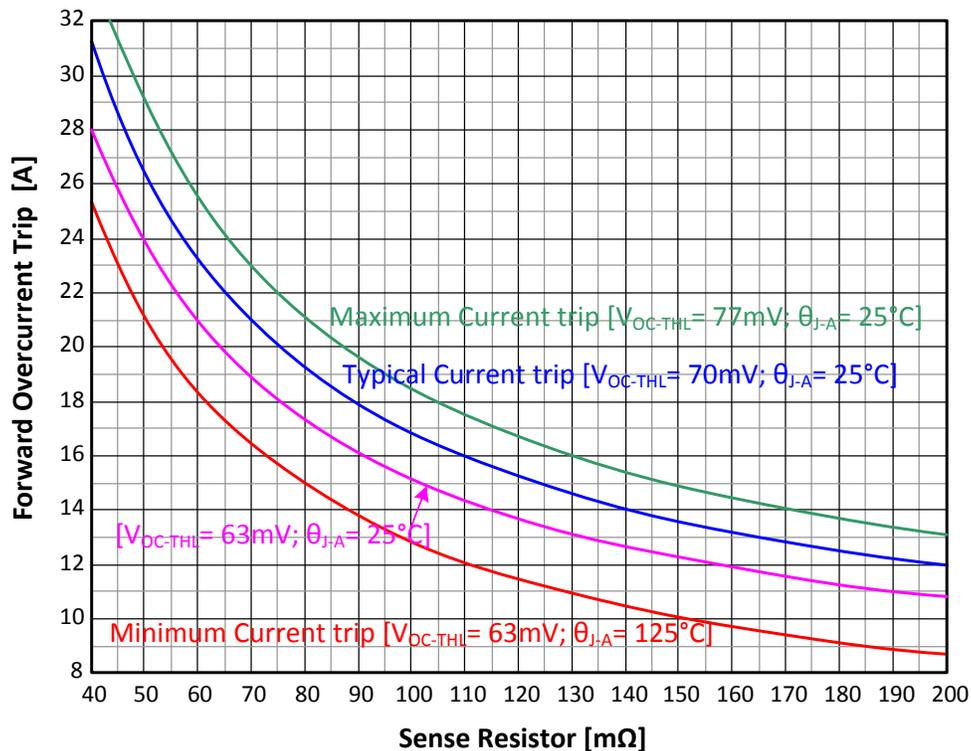

Figure 3: PI2161 Overcurrent trip vs. sense resistor chart
2.1. In a typical load switch application the sense resistor (Rs), R1 in the PI2161-EVAL1, is selected based on a minimum trip current to allow maximum normal load current without interruption. The sense resistor value can be determined from Overcurrent trip vs. sense resistor chart in Figure 3: